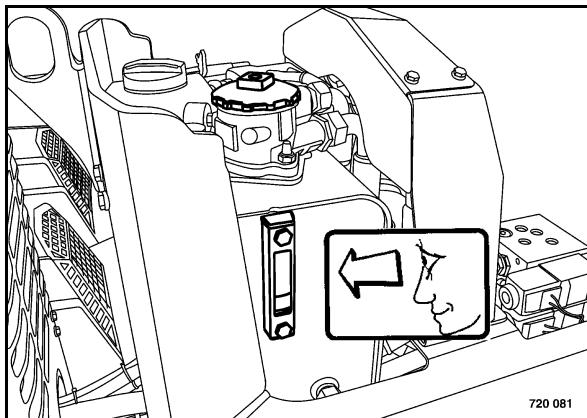

Fig. 125
- Check the oil level in the inspection glass (Fig. 125).